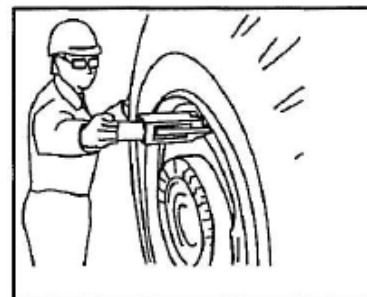

Figure 3
4. Stand to one side of the bead breaker. Hold the bead breaker with one hand. (Fig. 3)